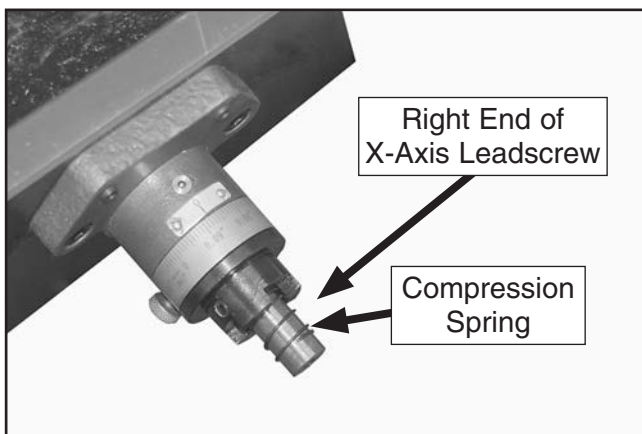

Figure 15. Compression spring installed on right side of X-axis leadscrew.
3. Slide compression spring onto right end of X-axis leadscrew, as shown in **Figure 15**. This will keep handwheel disengaged when using power feed.